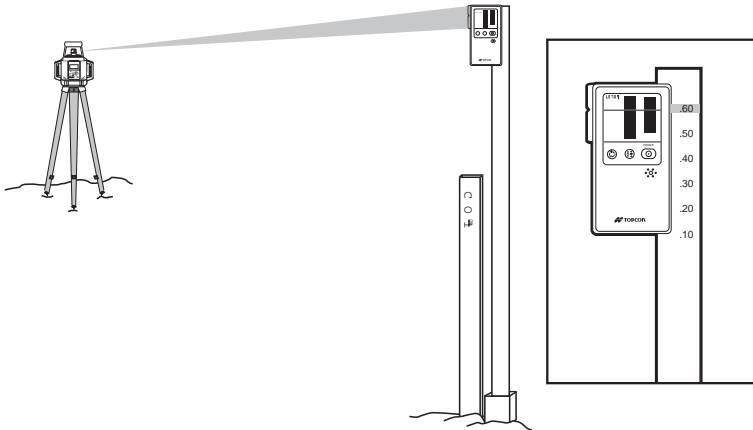

Figure 4-1. Detect Beam and Adjust Rod for On-grade
1. Place the grade rod on a reference hub and move the detector up or down to get an on-grade signal (Figure 4-1).
2. Adjust the rod for cut/fill or known elevation of the reference hub (Figure 4-1).